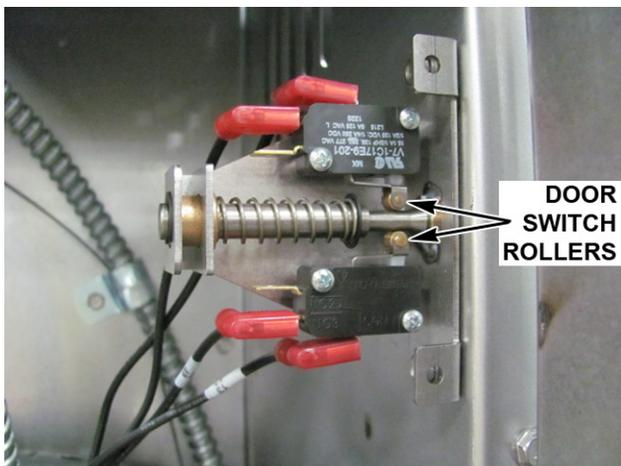

Fig. 8
- A. When door switch actuator rod is in the open position (door open), the door switch rollers should be positioned on the small part of the rod (Fig. 8).